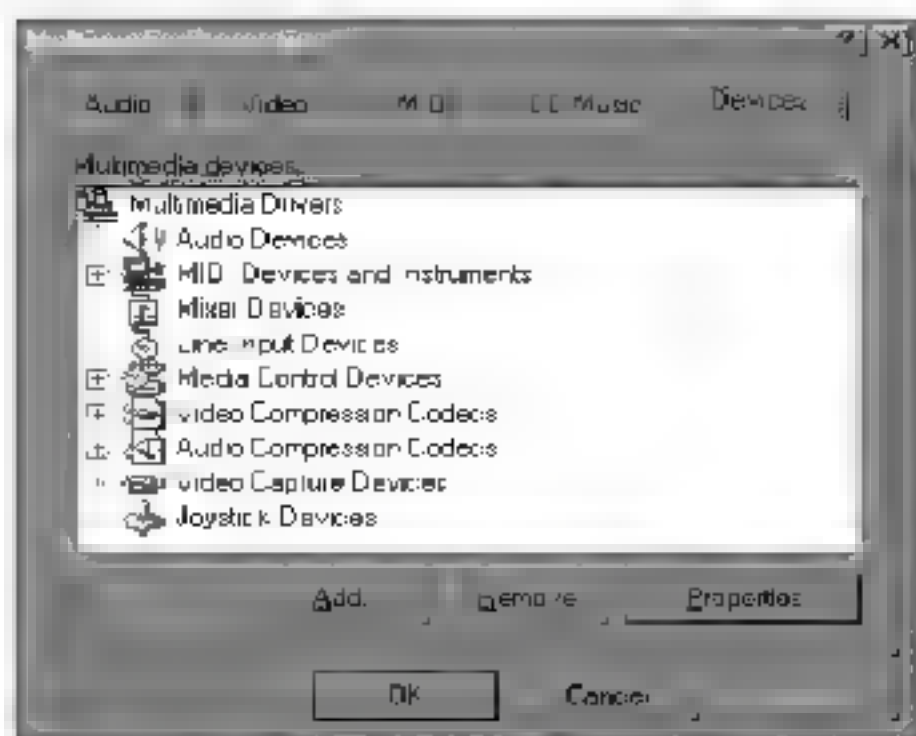

Figure 2-1 The Multimedia Properties window
- 5 The *Multimedia Properties* window now appears as shown in Figure 2-1 below. Click on the **Devices** tab.